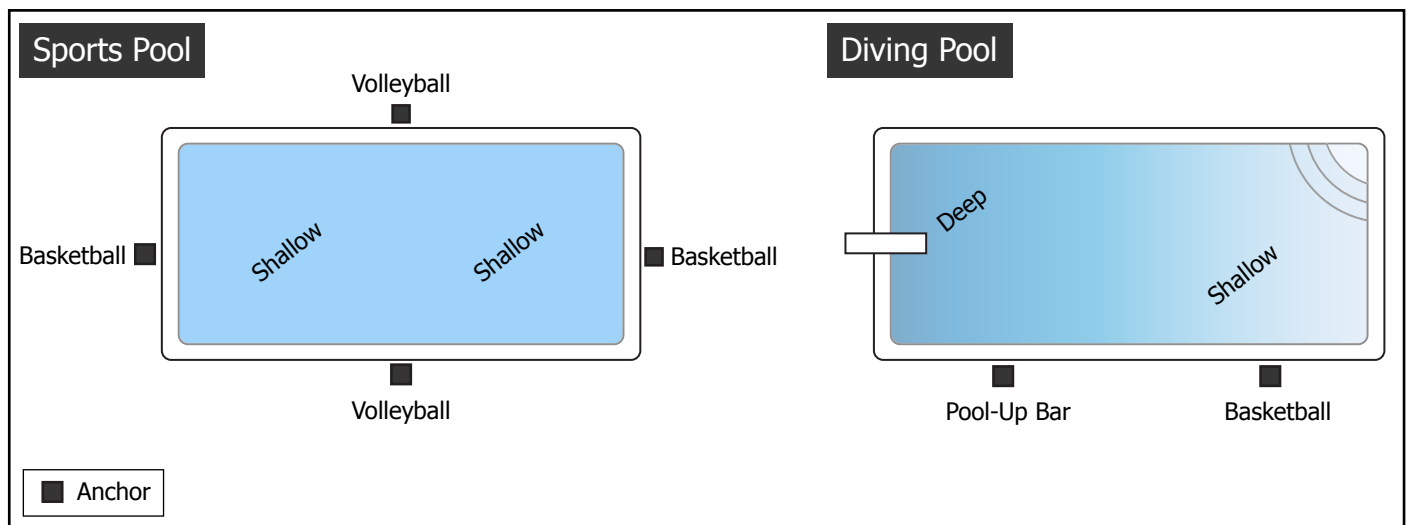

FIGURE 1: ANCHOR LOCATION BASED ON PRODUCT
1. Determine the location on the pool where you want to install the anchor(s). Refer to the following guidelines and FIGURE 1.